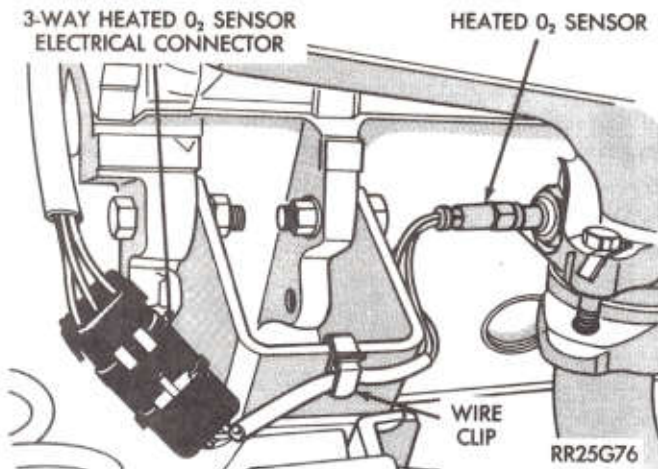

Fig. 9—Heated Oxygen Sensor Electrical Connection 5.2L Engine
(12) Verify that 3-way connector is attached for Heated Oxygen Sensor 5.2L Engine (Fig. 9).